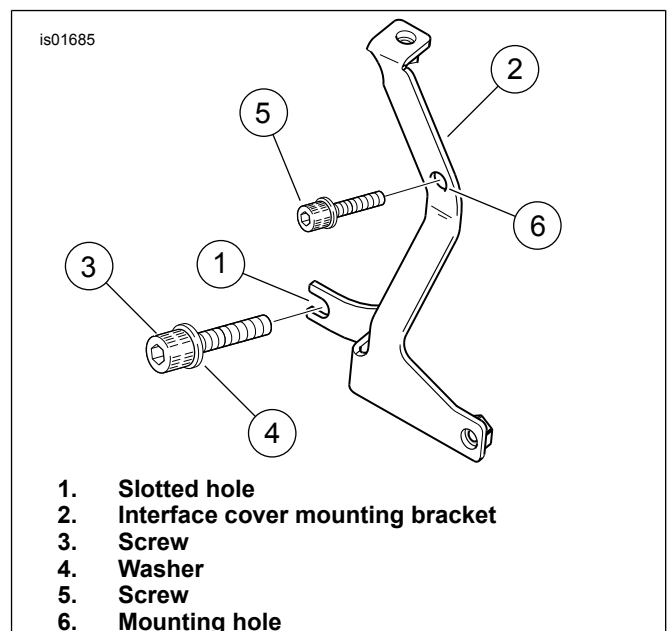
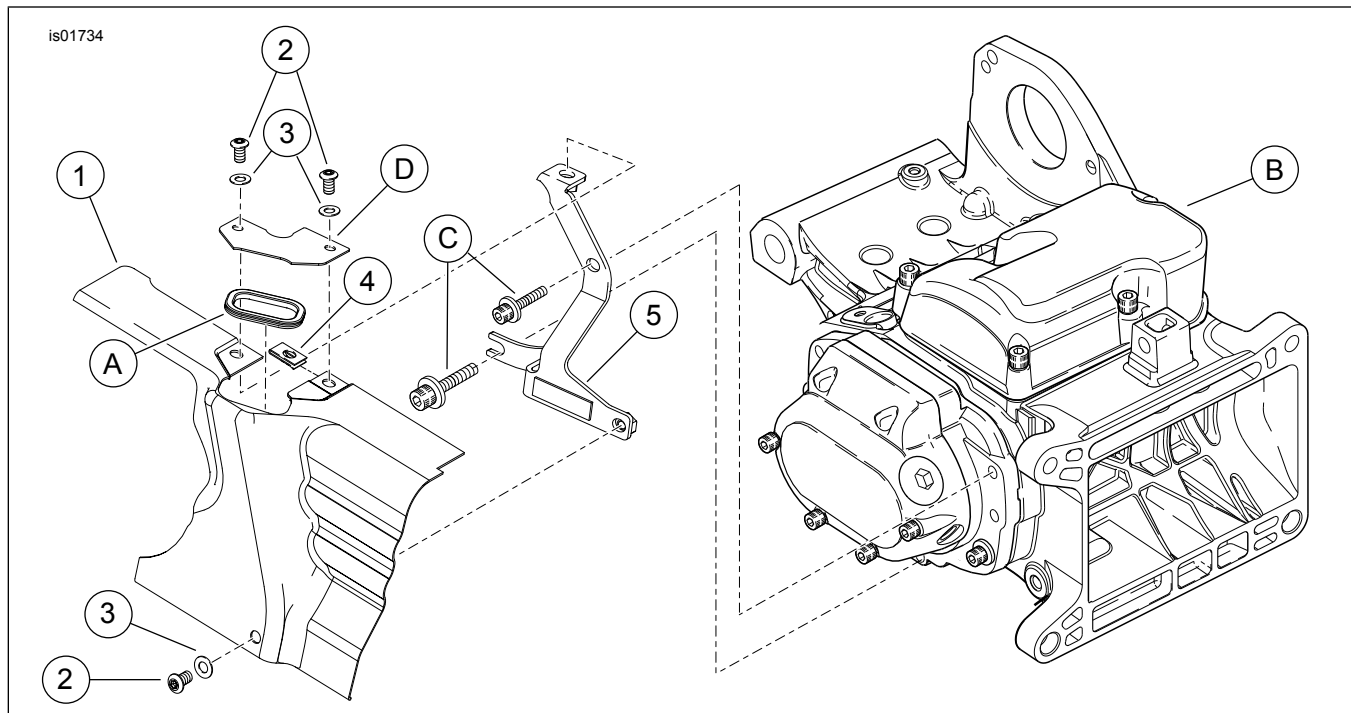

Figure 2. Mounting Bracket Installation
Figure 3. Service Parts: Softail Transmission -Interface Cover Kit
See Figure 3 and Table 1.
4. See Figure 2. Position the slotted hole (1) on the interface-cover mounting bracket (2) **behind** the screw (3) and washer (4).
5. Install the screw (5) from Step 1 through the mounting hole (6) on the bracket. Tighten to 9.5–12.2 N·m (84–108 in-lbs).
6. Tighten the screw (3) to 17.6–21.7 N·m (13–16 ft-lbs).
7. See Figure 3. Place the transmission interface cover (1) in position on the motorcycle. Spread the oil-line grommet (A) to wrap around the oil lines, then re-position the grommet in the interface cover.
8. Place the small plate (D) in position near the grommet (A). Tuck the small plate edge into the grommet. Install washers (3) and screws (2) through small plate and speed nut (4).
9. Fasten the bottom of the transmission interface cover (1) to the cover bracket (5) using a washer (3) and screw (2) as shown. Tighten the three screws (2) to 5.5–6.1 N·m (49.2–54 in-lbs).